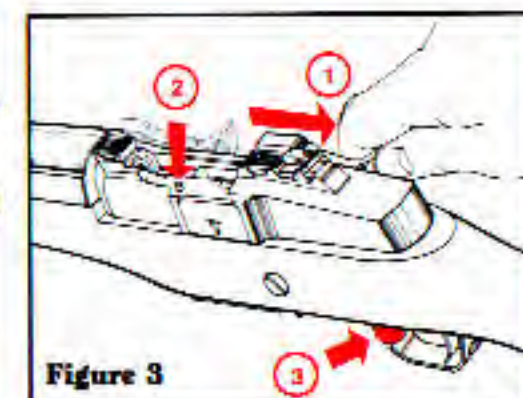

Figure 3
To manually engage the bolt lock to keep the bolt open: (See Figure 3)
2. Before inserting loaded magazine, engage the bolt lock so the bolt is held open. Check the chamber to be certain it is empty. **MOVE THE SAFETY TO THE "ON" POSITION.** (See Figure 3, p. 5).